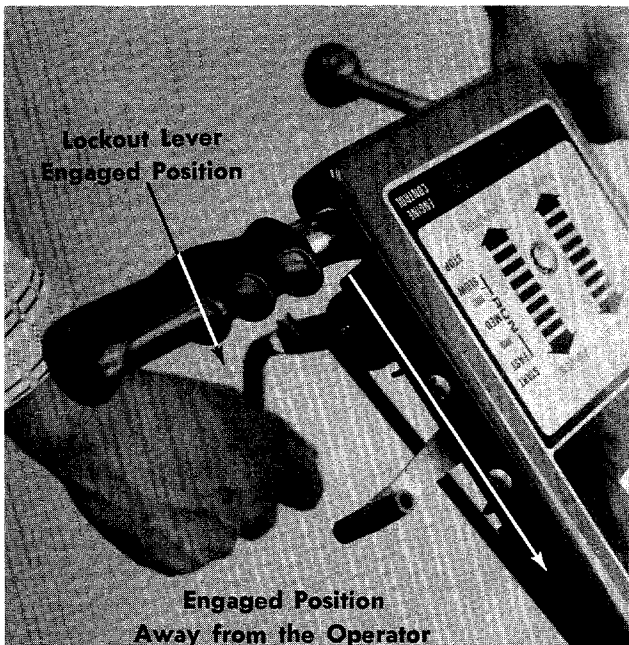

FIGURE 23. DRIVE MECHANISM ENGAGED
4. Figures 23 and 24 show lockout levers engaged and locked over center.